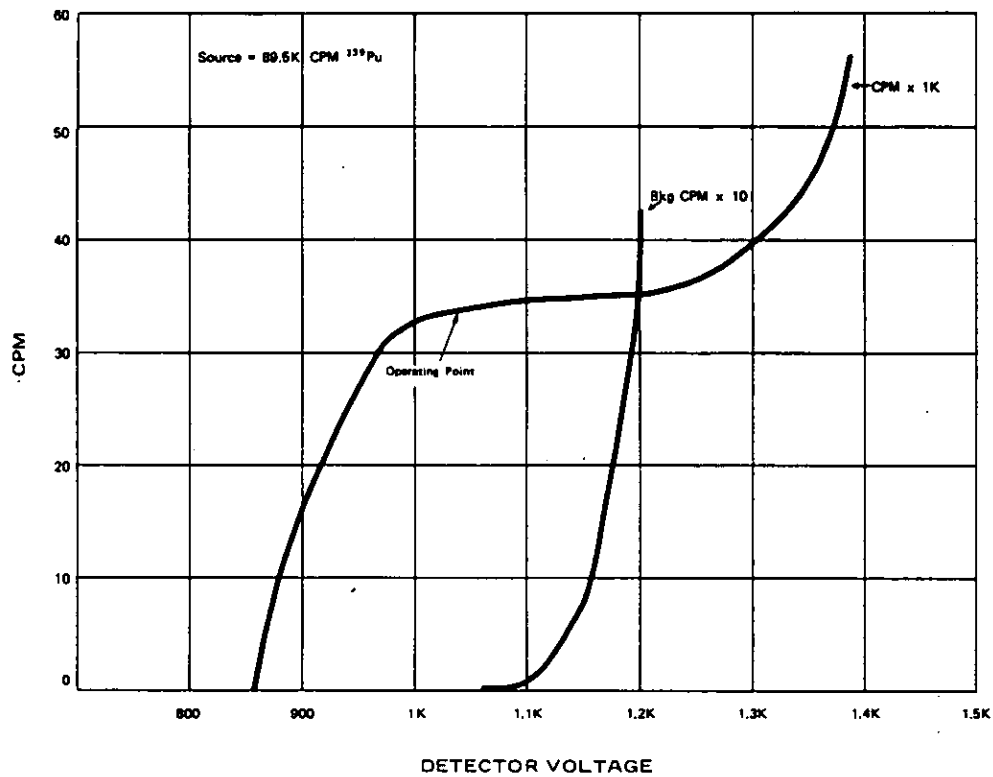

Figure 4-1. Typical Plateau, Model PRM-6 with AC-3
b. Scintillation Detectors (See Figure 4-1)